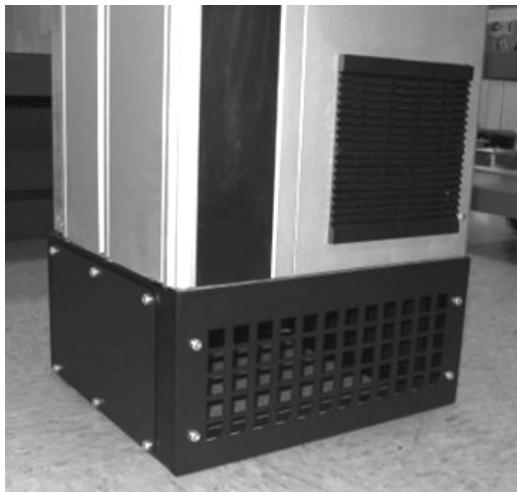

Fig. 9 CUE on a pedestal
4. Mount the CUE on the pedestal using the enclosed screws. See fig. 9.